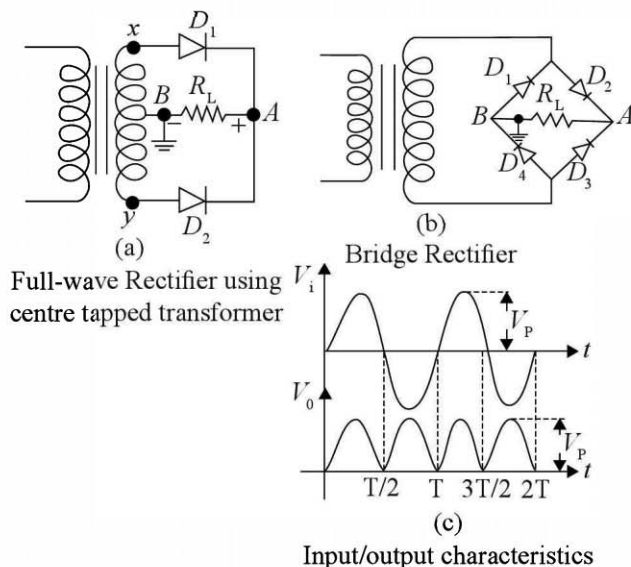

Fig. 19.10
**Full-wave rectifier** gives output in both the half cycles. Circuit and input/output characteristic are shown in Fig. 19.10 (a), 19.10 (b) and 19.10 (c) respectively.
Frequency of output signal =  $2 \times$  Frequency of input signal. Fig. 19.10 (c) or the characteristics mentioned suggest we shall prefer a full wave rectifier.